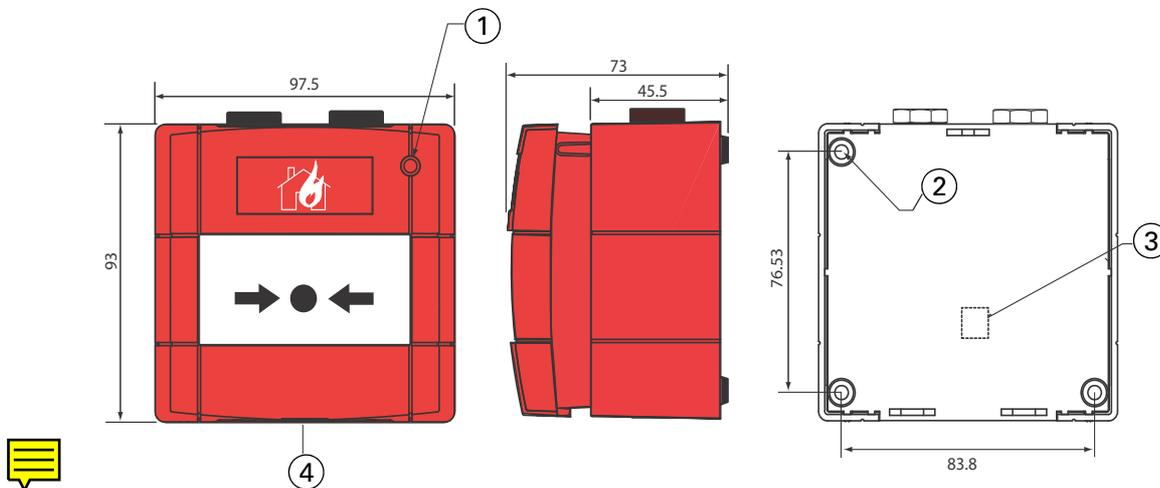
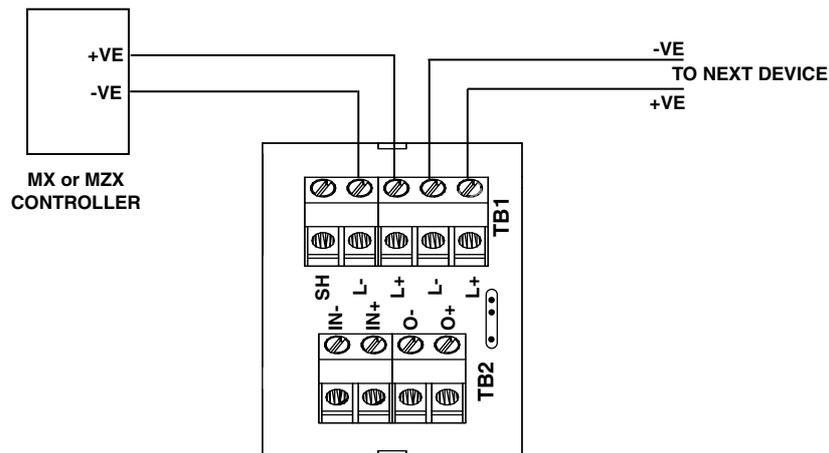

Fig. 1: CP830/CP830M Weatherproof Break Glass Callpoint - Overall and Fixing Dimensions
Fig. 4: CP830/CP830M Simplified Wiring Diagram
- All conductors to be free of earths. For typical wiring configuration see Fig. 4.
Mount the backbox in the required location ensuring the orientation is as shown in Fig. 1 Cables are to be selected in accordance with Publication 17A-02-D and the requirements of the current issue of BS5839. Cabling should be connected as shown in Fig. 4, ensuring correct polarity. Couplers are to be used with MICC cable.